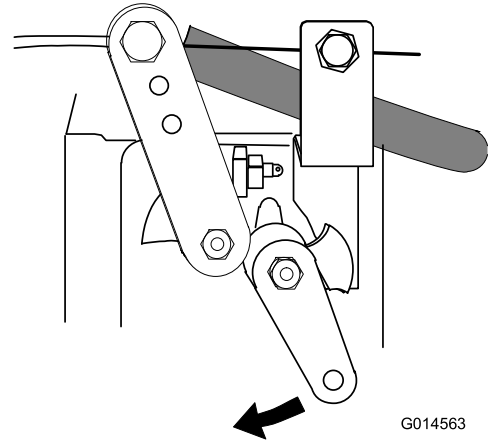

Figure 28
3. Turn the ignition key to the OFF position (0).
If the engine fails to shut off when the ignition key is turned to the OFF position (0), move the engine-stop lever forward (Figure 28).